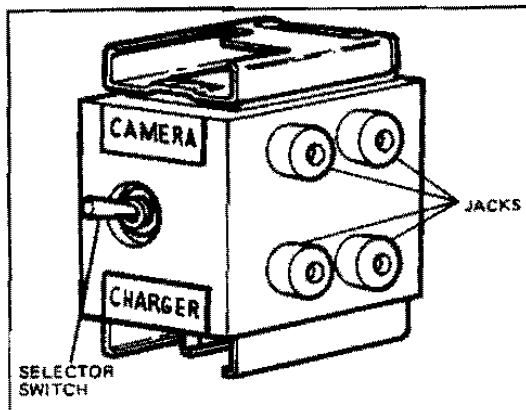

FIG. 2-2 360 METER CONNECTOR BLOCK
B. CHECKING THE BATTERY CHARGER USING THE 360 METER CONNECTOR BLOCK (FIGURE 2-2).